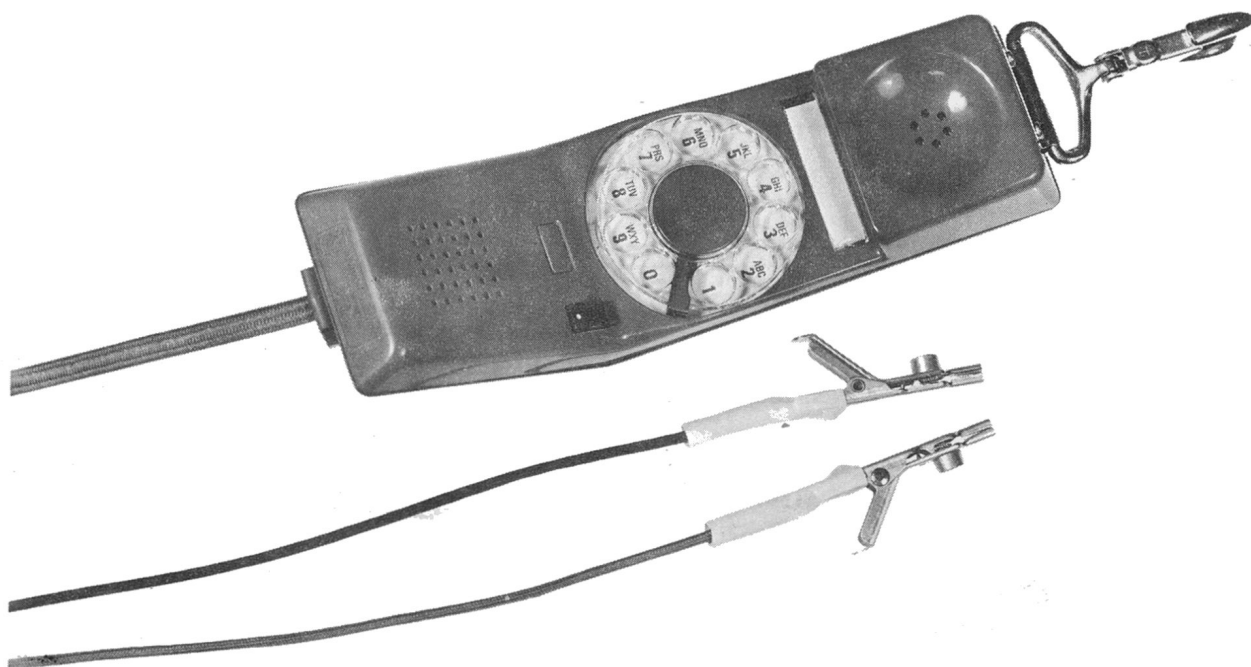

Fig. 1 — QSE4A1 Handset
2.01 The QSE4A1 and QSE4B1 type Handsets consist of a plastic handset equipped with an NE-10QA type Dial in the center of the housing, an NE-T1 Transmitter Unit, an NE-U1 Receiver Unit, and a cord provided with test clips (see Fig. 1).